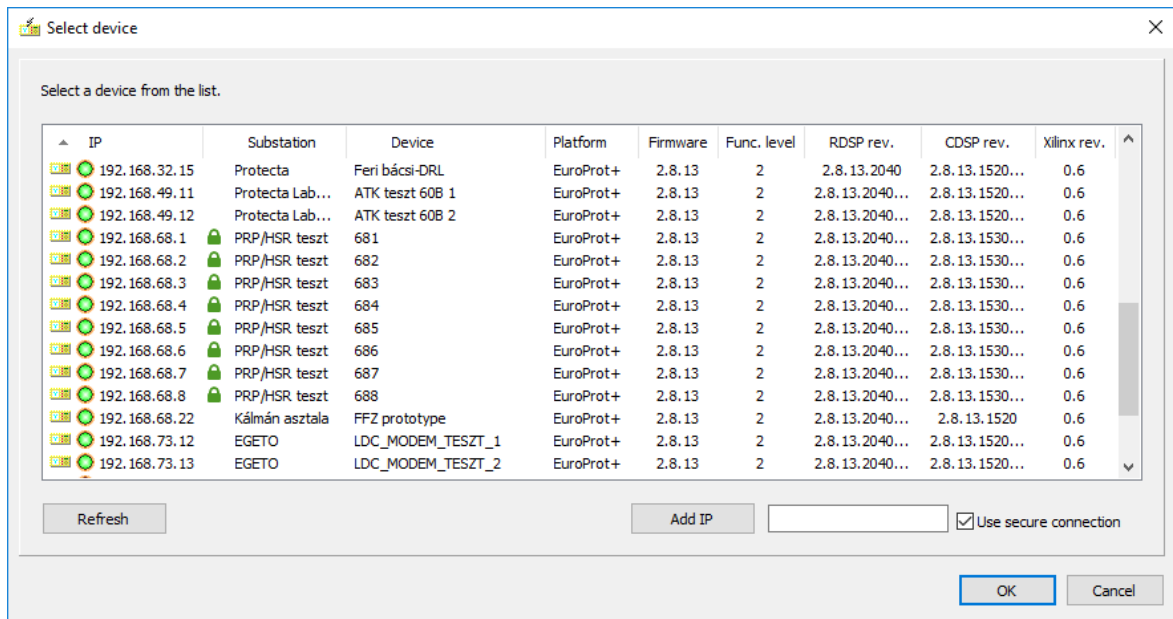

Figure 0-2 The "Select device" dialog
-  for uploading the configuration to a device connected to the Ethernet network. After clicking on the icon, one of the devices connected to the Ethernet network can be selected for processing. It takes a short time to find these devices, and then the "Select device" window is opened (See Figure 0-2). This window lists the responding devices together with their IP address, substation and device name and firmware identifiers. The selection is performed using the usual Windows methods. The alternative method of opening is to select "Project / Upload configuration" from the menu. In this case the user can choose between the current or previous version of the configuration stored in the device.
After selection and successful downloading (or after opening a stored configuration file), the window shown in Figure 0-2 opens automatically.